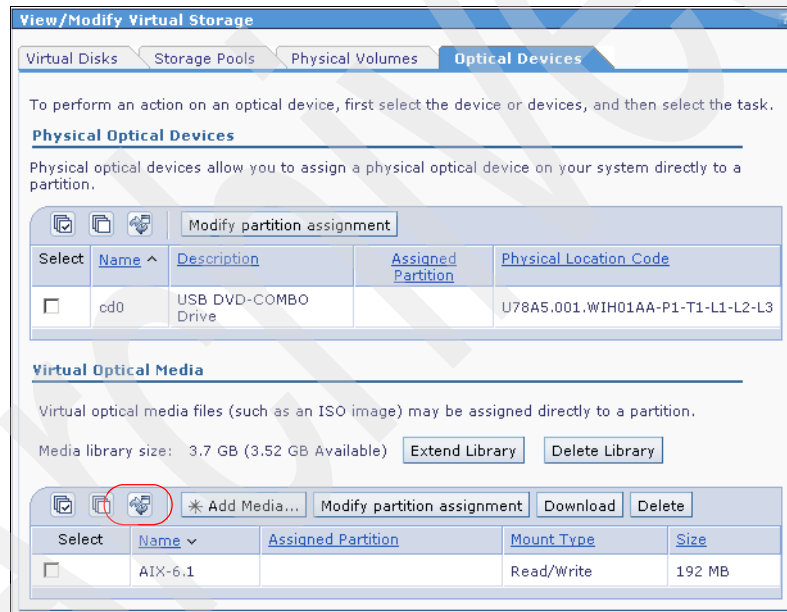

Figure 6-10 Media library - newly created media
9. After closing the browser window of the Add Media dialog, you return to the view shown in Figure 6-10. The new media is already listed here. Clicking **Refresh** updates the size information during the copy operation.